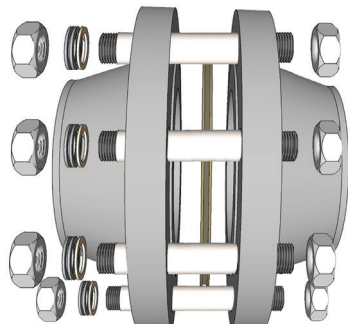

Figure 1
- Perform the following installation steps. Install the set as shown in Figure 1 with 2 metallic washers under the nut, and 1 isolation washer between the metallic washers and the flange, on only one side of the pair of flanges. The other side of the pair of flanges does not contain any type of washer.